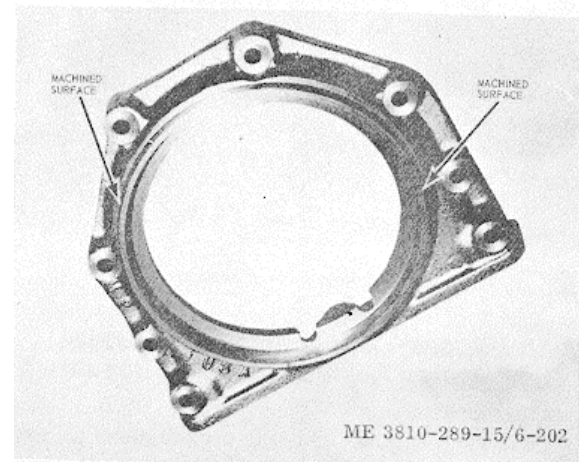

Figure 3-194. Rear cover locating surface.
(1) Alinement during engine assembly is the biggest factor to proper performance of the rear cover unit. The outer machined surface, indicate by arrows in figure 3-194 is provided so the rear cover may be properly centered around the crankshaft. Attach indicator to crankshaft with point resting on machined surface and maintain within a maximum of 0.005 inch runout.
(2) Coat new rear cover seal with clean Lubricating oil.
(3) Lay rear cover on arbor press table with mounting surface face down.
(4) Use a flat plate, larger than outside diameter of seal and press seal ("open" side down) into cover until rear of seal is flush with rear of cover.
(5) Lubricate cavity between oil seal lips with clean lubricating oil.
(6) Clean the crankshaft chamfer outside diameter. A burr on the chamfer would cut the seal and cause a leak.